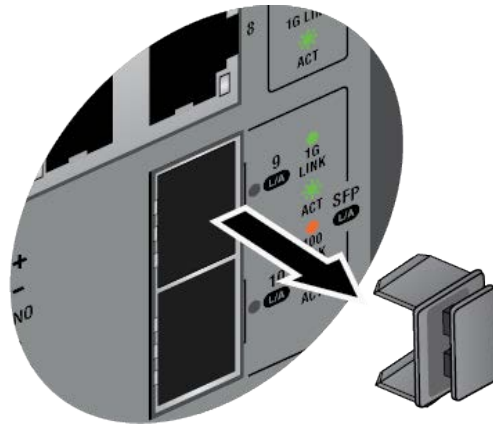

Figure 40. Removing the Dust Plug from a Transceiver Port
1. Remove the dust plug from the selected transceiver port. Figure 40 on page 97.